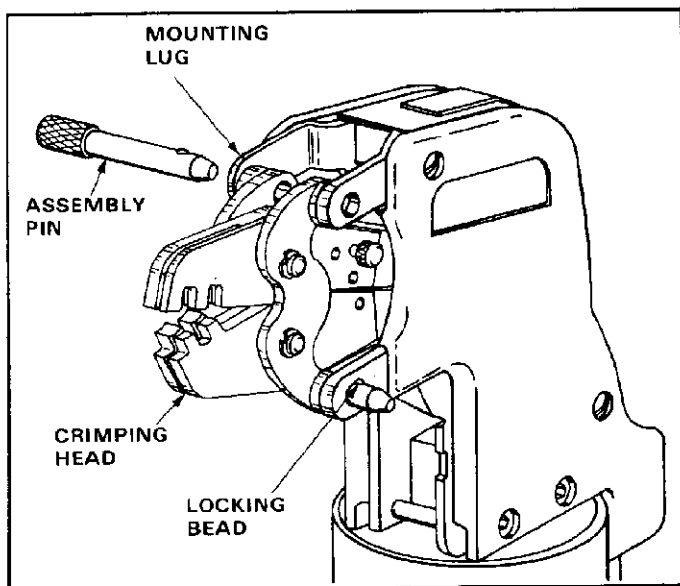

Fig. I-2
5. Align mounting holes of head assembly and tool. Insert assembly pins through mounting holes until locking beads pass outer edge of mounting lugs. See Figure I-2.